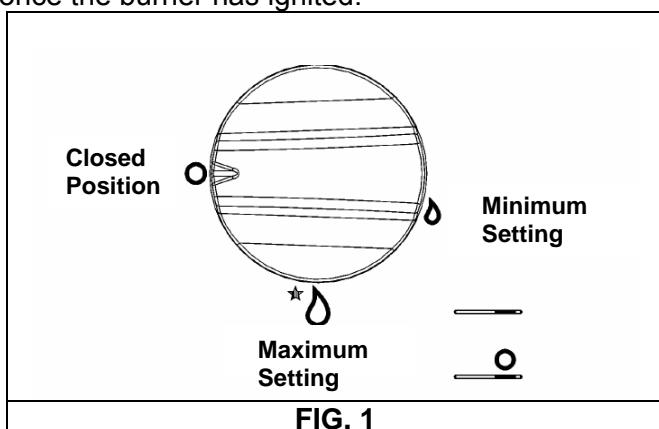

FIG. 1
Push and turn the knob corresponding to the required burner in an anticlockwise direction until it reaches the full on position (large flame fig. 1), then place a lighted match near the burner.
Push and turn the knob corresponding to the required burner in an anticlockwise direction until it reaches the full on position (large flame fig. 1), then depress and release the ignition button.
Push and turn the knob corresponding to the required burner in an anticlockwise direction until it reaches the full on position (large flame fig. 1), then depress the knob.
The knobs of burners equipped with flame failure device must be turned in an anticlockwise direction until they reach the full on position (large flame fig. 1) and come to a stop. Now depress the knob in question and repeat the previously indicated operations.
- When the pan comes to the boil, set the knob to the reduced rate position (small flame fig. 1).
- Burners with flame failure device may only be ignited when the relative knob has been set to the Full on position (large flame fig. 1).